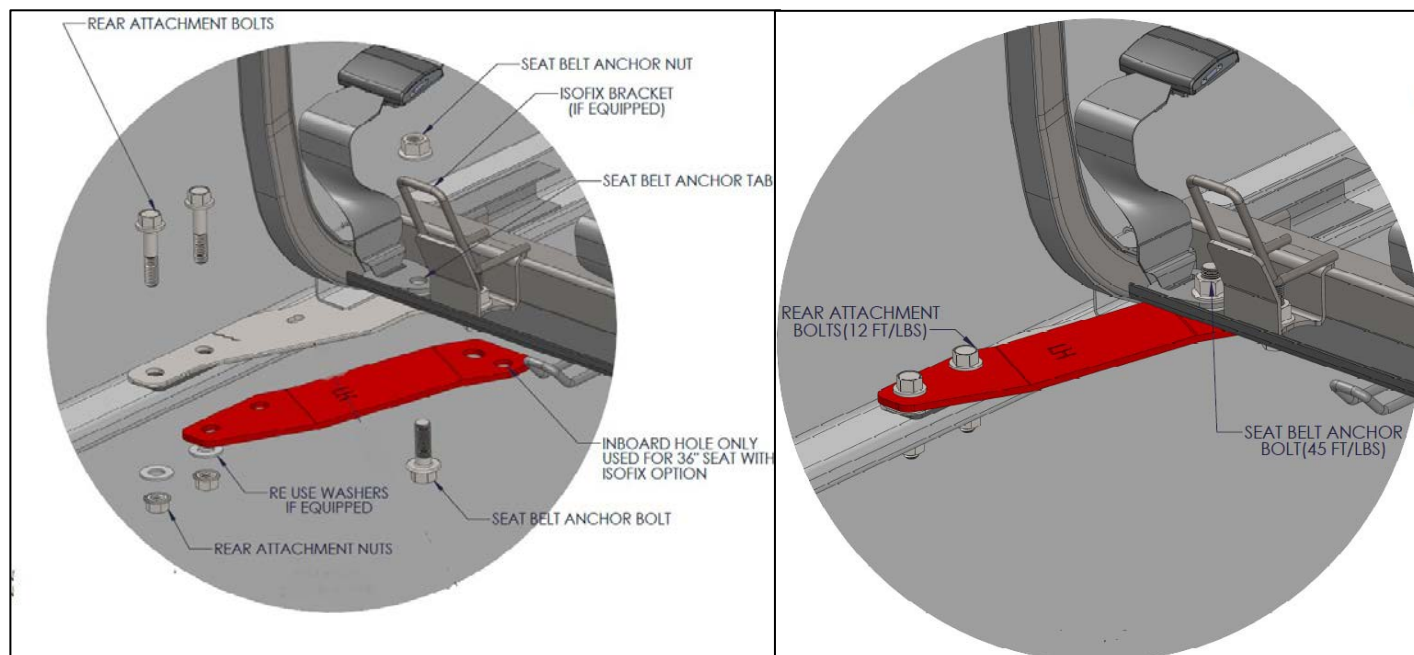

Figure 4: Bracket Installation (Driver's Side Shown) – 26 Inch, 36 Inch, and 39 Inch Seats
3. Place the new bracket over the top of the original bracket (TBB 219032 RL for driver's side or TBB 219033 RR for curb side). See **Figure 4**.